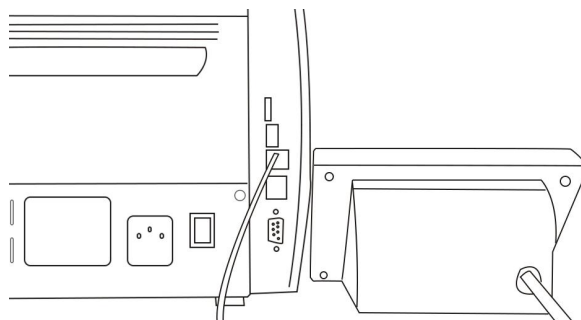

Figure 86
1) Please insert the RJ12 connector of the external display into the RJ12 interface on the back of the machine, as shown in Figure 86.